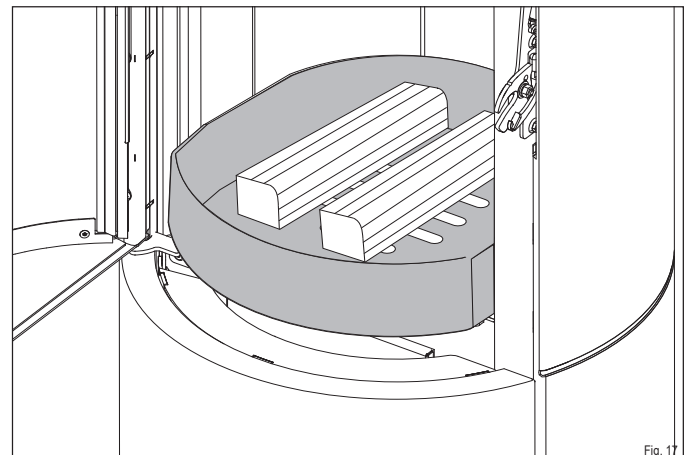

Fig. 17
- ▶ Add two logs (4) with a total weight of 1.4 kg in the middle of the firebox (face forward).
- ▶ Keep approx. 5 cm from the firebox glass (Fig. 17).